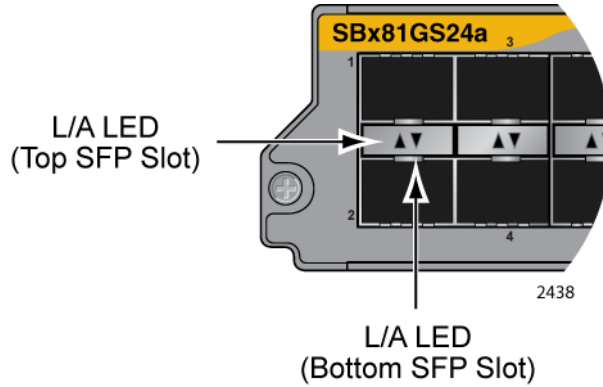

Figure 20. Port LEDs on the AT-SBx81GS24a SFP Line Card
**LEDs** The SFP slots on the AT-SBx81GS24a SFP Line Card have one LED each, as shown in Figure 20 on page 45 and described in Table 10 on page 45.